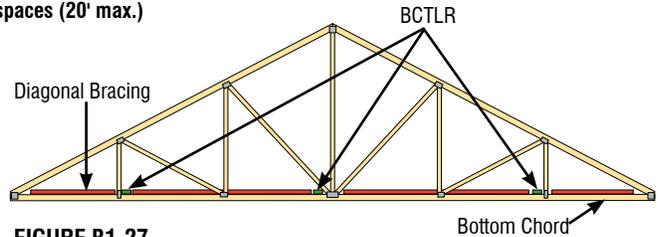

FIGURE B1-27
3) **BOTTOM CHORD TEMPORARY LATERAL RESTRAINT (BCTLR) AND DIAGONAL BRACING** is required to maintain on-center spacing for the Bottom Chord and to laterally “stiffen” the group of Trusses. Place Continuous Lateral Restraint and Diagonal Bracing on top of the Bottom Chord (Figures B1-27 and 28). This material can be removed after the permanent ceiling Diaphragm is in place or remain to become part of the Permanent Building Stability Bracing (PBSB) system.